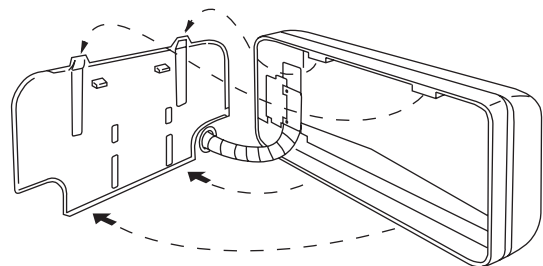
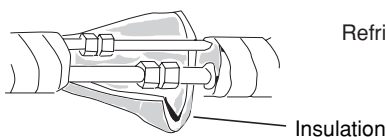

Fig. 36
Fig. 37a
- (2) Push the wiring, refrigerant tubing, and drain hose through the hole in the wall. Adjust the indoor unit so it is securely seated on the rear panel. (Fig. 36)
- (3) Carefully bend the tubing (if necessary) to run along the wall in the direction of the outdoor unit and then tape as far as the fittings. (See Caution on page 20.) The drain hose should come straight down the wall to a point where water runoff won't stain the wall.
- (4) Connect the refrigerant tubing to the outdoor unit. (After performing a leak test on the connecting part, insulate it with the tubing insulation. (Fig. 37a)) Also, refer to Section 5-4. Connecting Tubing between Indoor and Outdoor Units.